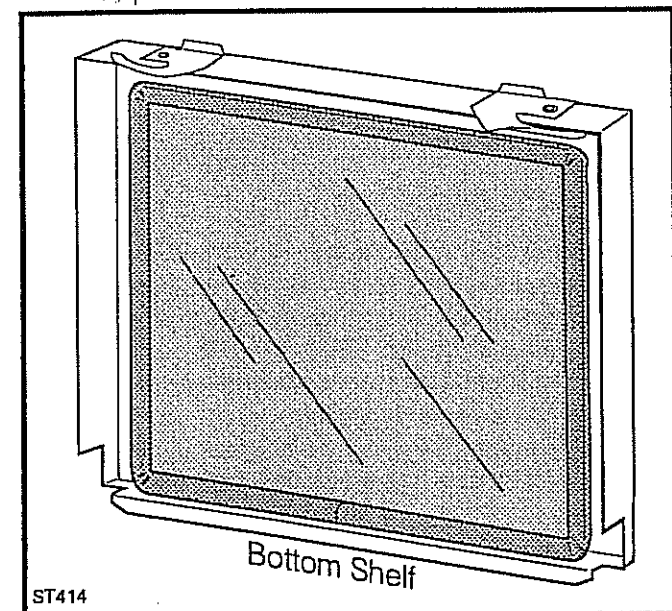

Fig. 71 Rest the glass panel on the bottom centered within the frame.
5. Orient the glass panel so that the *flat side* of the gasket contacts the sealant within the frame. The glass panel should be centered over the opening and resting on the bottom shelf of the frame. (Fig. 71)